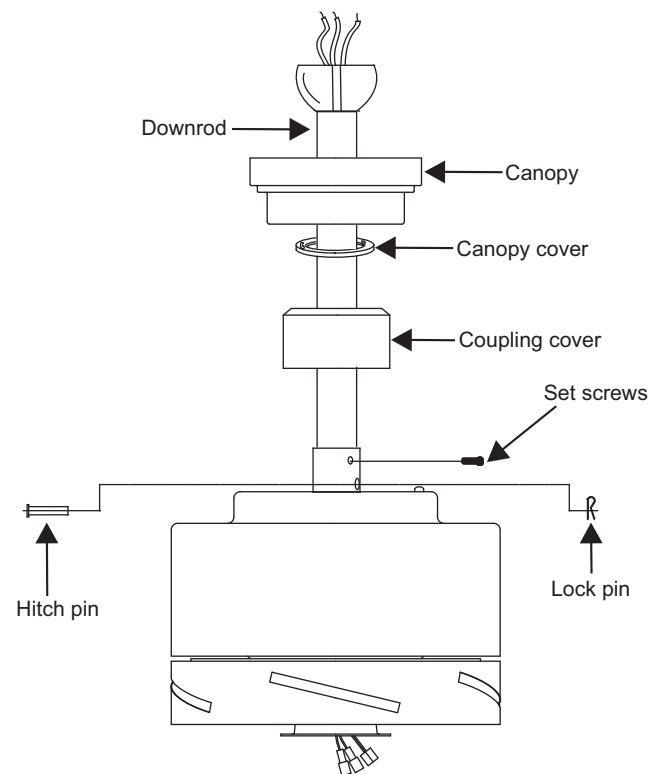

Figure 7
**Step 6.** Route wires exiting from the top of the fan motor through the coupling cover, canopy cover, canopy and then through the ball / downrod. (Fig. 7)
**Step 7.** Align the holes at the bottom of the downrod with the holes in the collar on top of the motor housing. (Fig.7) Carefully insert the hitch pin through the holes in the collar and downrod. Be careful not to jam the pin against the wiring inside the downrod. Insert the locking pin through the hole near the end of the hitch pin until it snaps into its locked position, as noted in the circle inset of Fig. 7
**Step 8.** Tighten two set screws on top of the fan motor firmly. (Fig. 7)